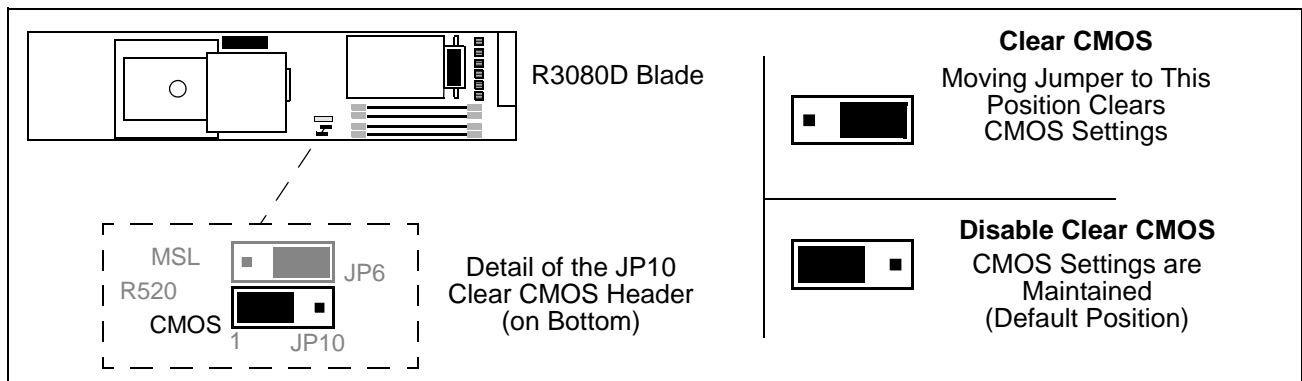
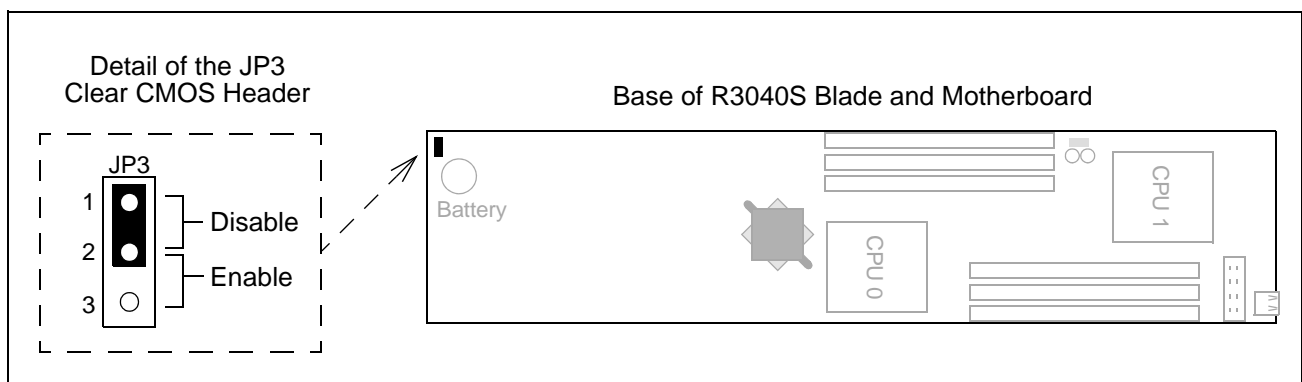

Figure 34 Model R3080D CMOS Header and Jumper Settings
Figure 35 Model R3040S CMOS Header and Jumper Settings (Default Setting Shown)
2. Locate **header JP10** on the R3080D (see Figure 34 on page 65) or **header JP3** on the R3040S (see Figure 35 on this page).